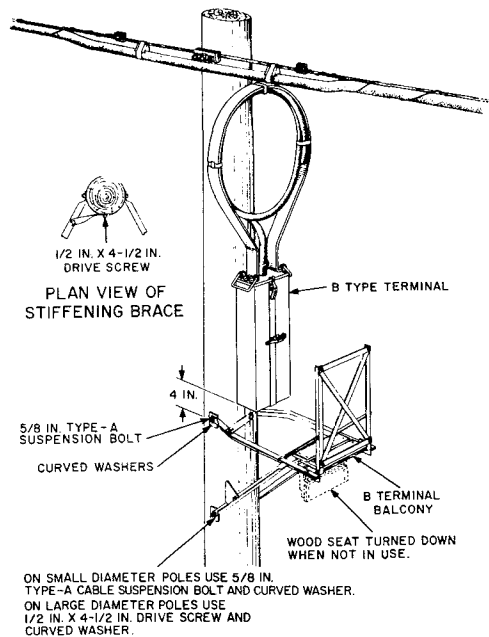

Fig. 2—Pole Mounted B Terminal Balcony
2.04 Pole Mounting: Refer to Fig. 2 and proceed as follows: